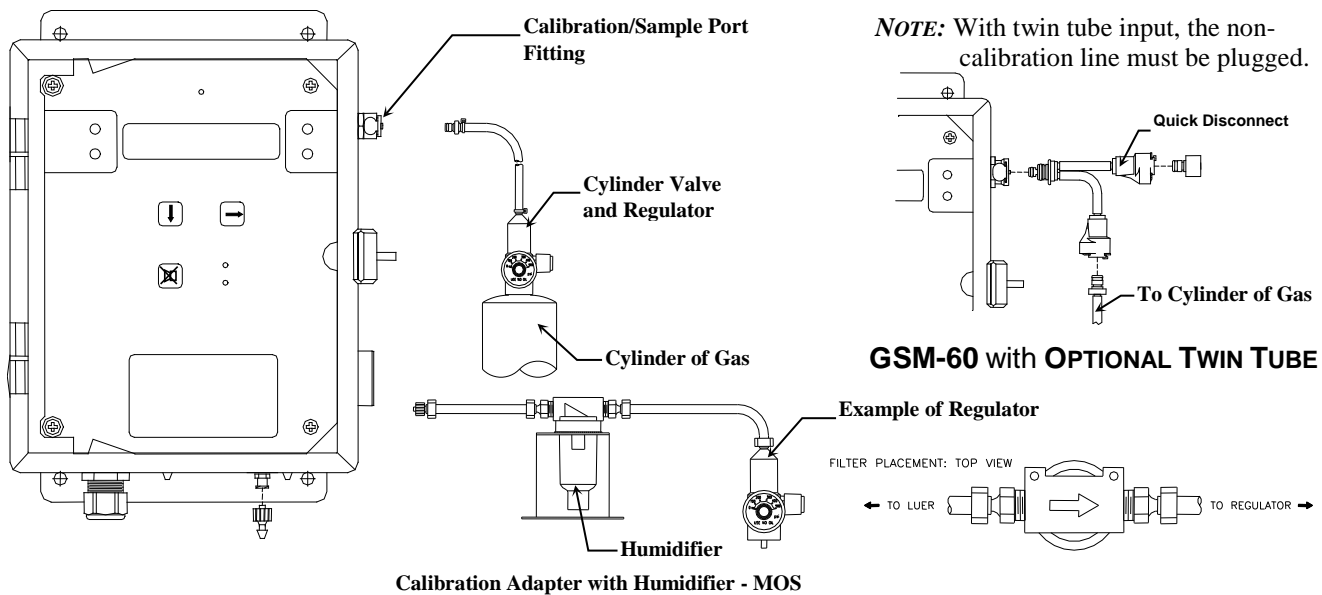

Figure 7: GSM-60 Calibration Connections
- Press the **SELECT** switch, the gas & current reading is displayed in upper portion of display. The mV reading & "Low Cal 0" is displayed in the lower portion of display. This is the Low Cal setting, *usually zero*, clean air must be supplied to the sensor. This reading needs to be at or near zero. If it is not, then a cylinder of clean 20.9 air should be used. See Figure 7 if this is required.
- Apply calibration gas to sensor. See **Figure 7**. After about 1 minute and mV reading has stabilized.